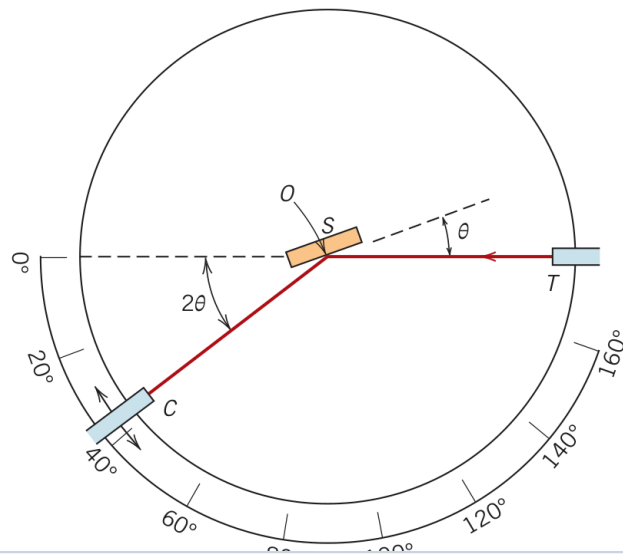

Figure 3.22: Operating geometry of an X-ray diffractometer showing source T , specimen S , and detector C rotating through angle 2θ .
Figure 3.22 Schematic diagram of an x-ray diffractometer; T = x-ray source, S = specimen, C = detector, and O = the axis around which the specimen and detector rotate.
- **X-Ray Diffractometer (Figure 3.22):** Monochromatic X-rays of known wavelength λ strike the powder specimen at angle θ . When the path difference between adjacent crystallographic planes equals an integer